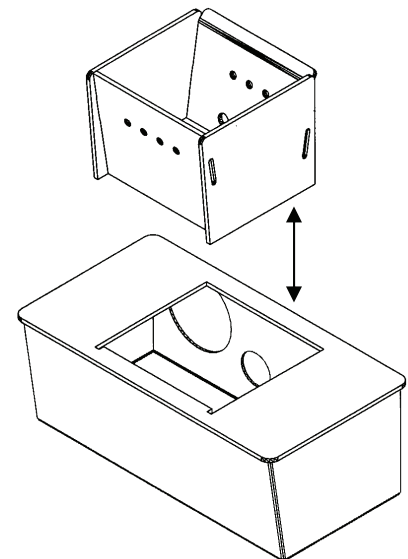

FIGURE 16
- c. Remove the burnpots inner section by grasping it and pulling straight up (see Figure 16).